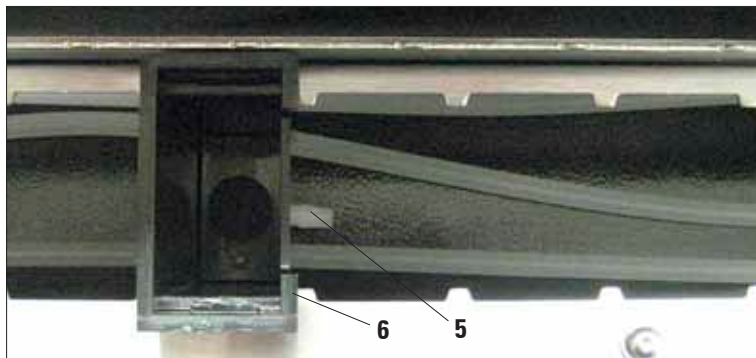

Fig. 23
Insert the rinsing water container so that the hose connection (5) points to the exit tank (Fig. 23).